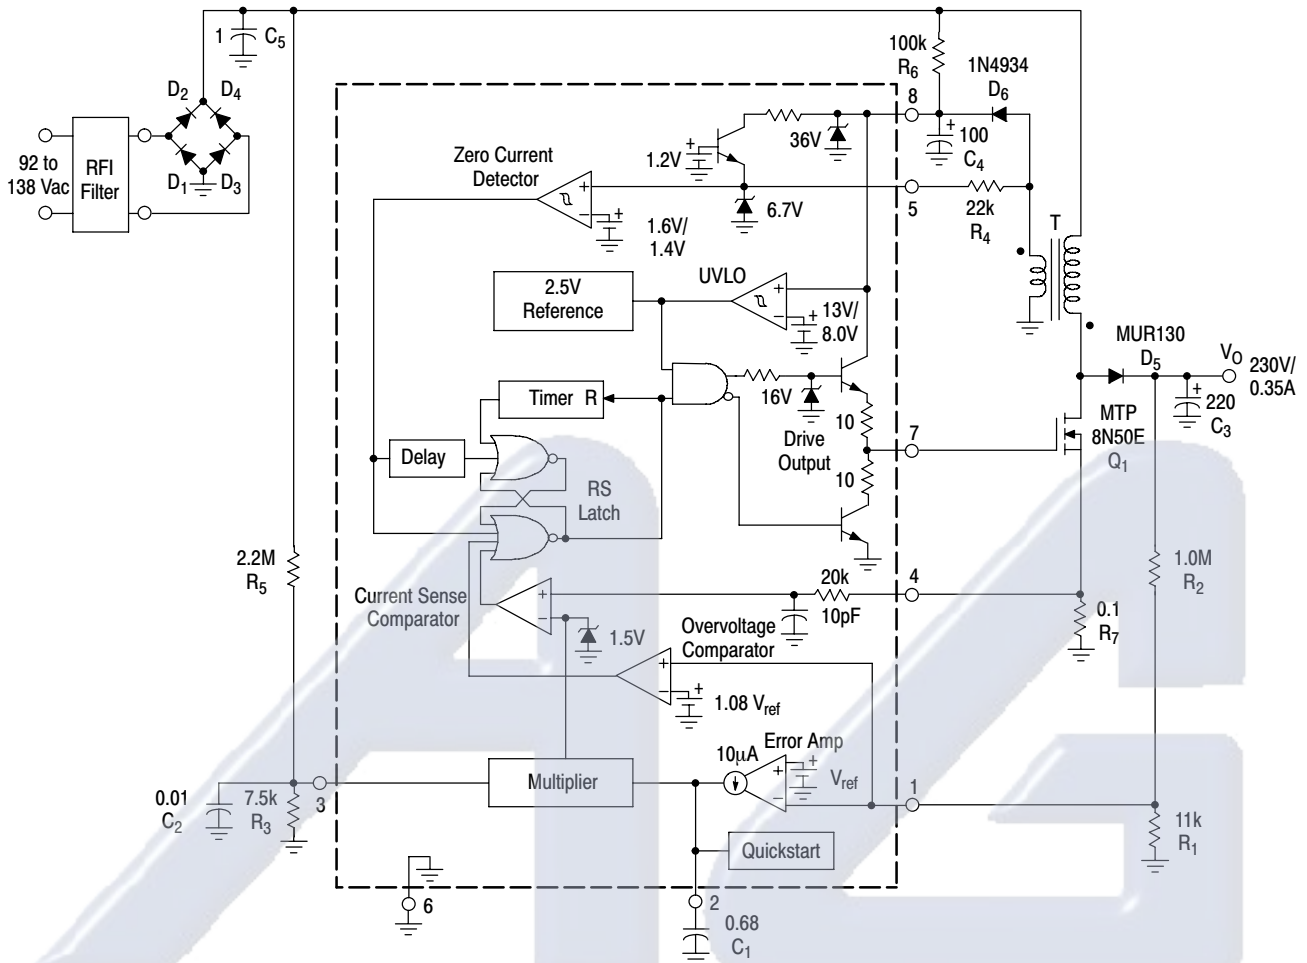
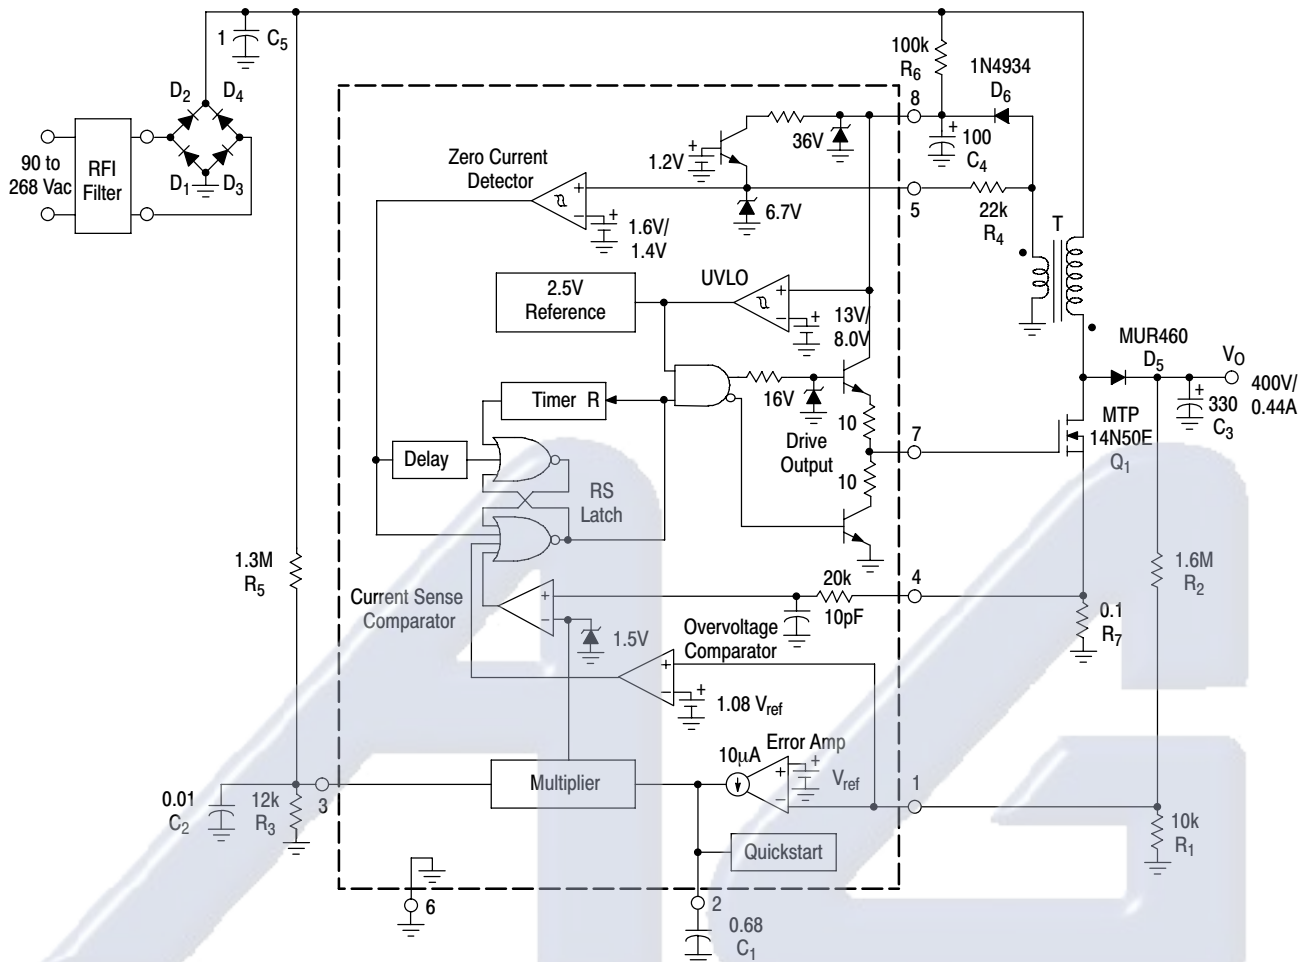
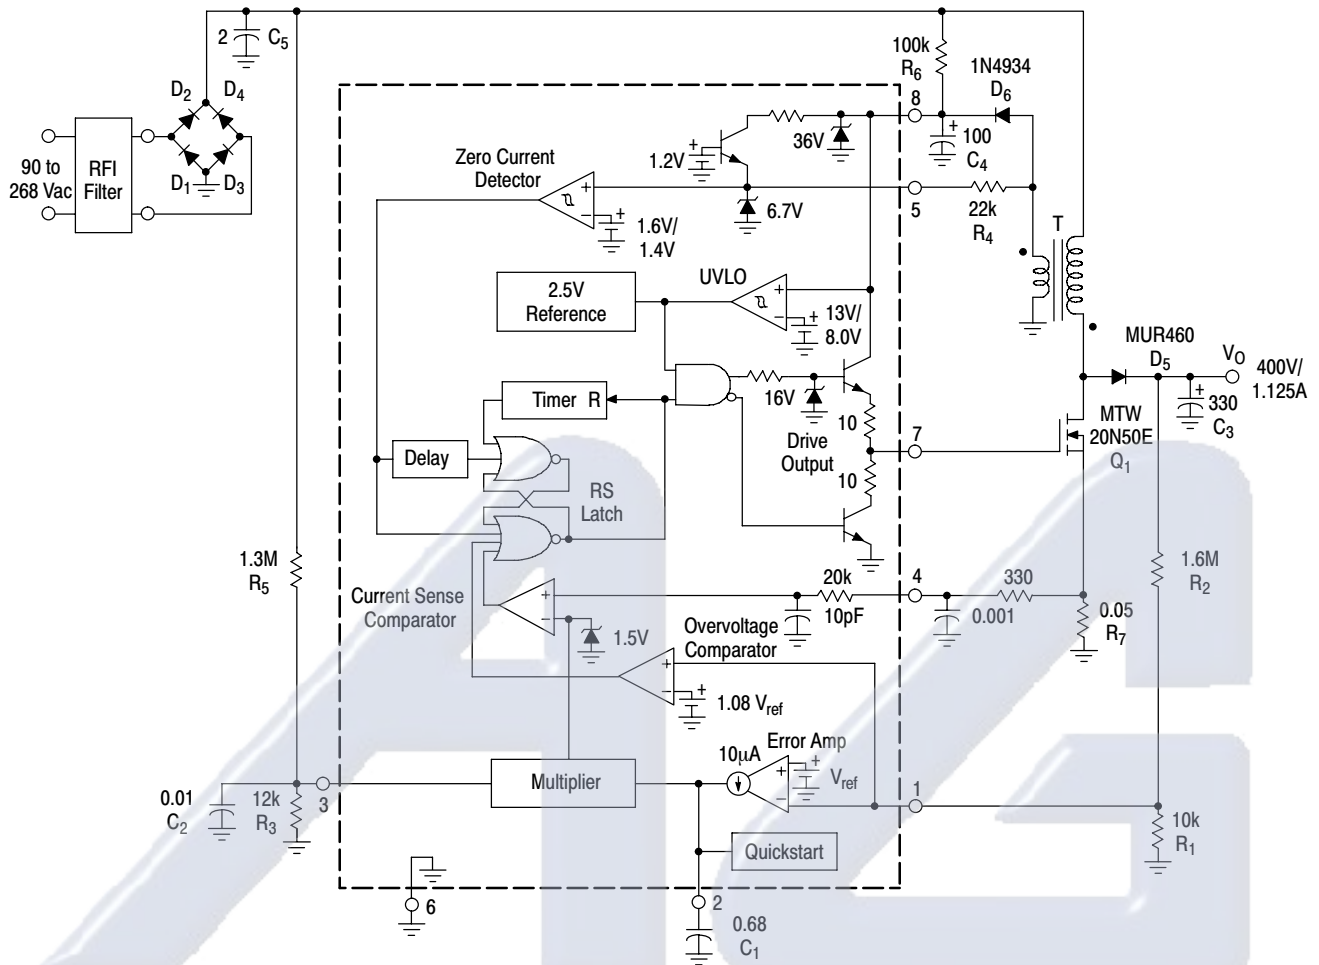
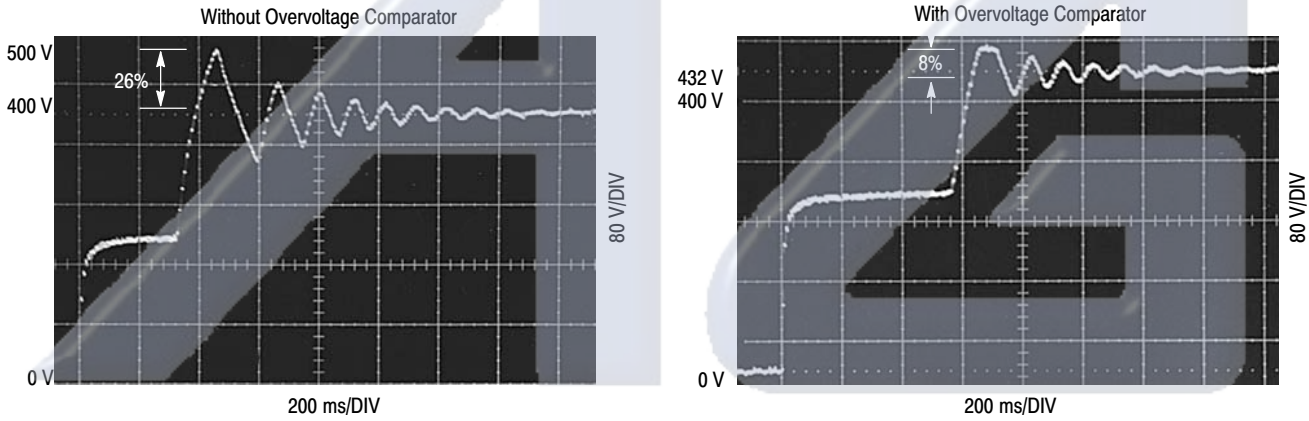

Figure 20. 80 W Power Factor Controller
Figure 21. 175 W Universal Input Power Factor Controller
Figure 22. 450 W Universal Input Power Factor Controller
Figure 24. Output Voltage Startup Overshoot (Figure 20 Circuit)
An internal RC filter has been included to attenuate any high frequency noise that may be present on the current waveform. This filter helps reduce the ac line current distortion especially near the zero crossings. With the component values shown in Figure 20, the Current Sense Comparator threshold, at the peak of the haversine varies from 1.1 V at 90 Vac to 100 mV at 268 Vac. The Current Sense Input to Drive Output turn-off propagation delay is typically less than 200 ns.
0.998 at nominal line. Figures 20 and 21 are universal input preconverter examples that operate over a continuous input voltage range of 90 Vac to 268 Vac. Figure 20 provides an output power of 175 W (400 V at 440 mA) while Figure 21 provides 450 W (400 V at 1.125 A). Both circuits have an observed worst-case power factor of approximately 0.989. The input current and voltage waveforms of Figure 20 are shown in Figure 22 with operation at 115 Vac and 230 Vac. The data for each of the applications was generated with the test set-up shown in Figure 24.
This data was taken with the test set-up shown in Figure 24.
An RFI filter is required for best performance when connecting the preconverter directly to the ac line. The filter attenuates the level of high frequency switching that appears on the ac line current waveform. Figures 19 and 20 work well with commercially available two stage filters such as the Delta Electronics 03DPCG5. Shown above is a single stage test filter that can easily be constructed with four ac line rated capacitors and a common-mode transformer. Coilcraft CMT3-28-2 was used to test Figures 19 and 20. It has a minimum inductance of 28 mH and a maximum current rating of 2.0 A. Coilcraft CMT4-17-9 was used to test Figure 21. It has a minimum inductance of 17 mH and a maximum current rating of 9.0 A. Circuit conversion efficiency η (%) was calculated without the power loss of the RFI filter.
(Circuits of Figures 20 and 21)**